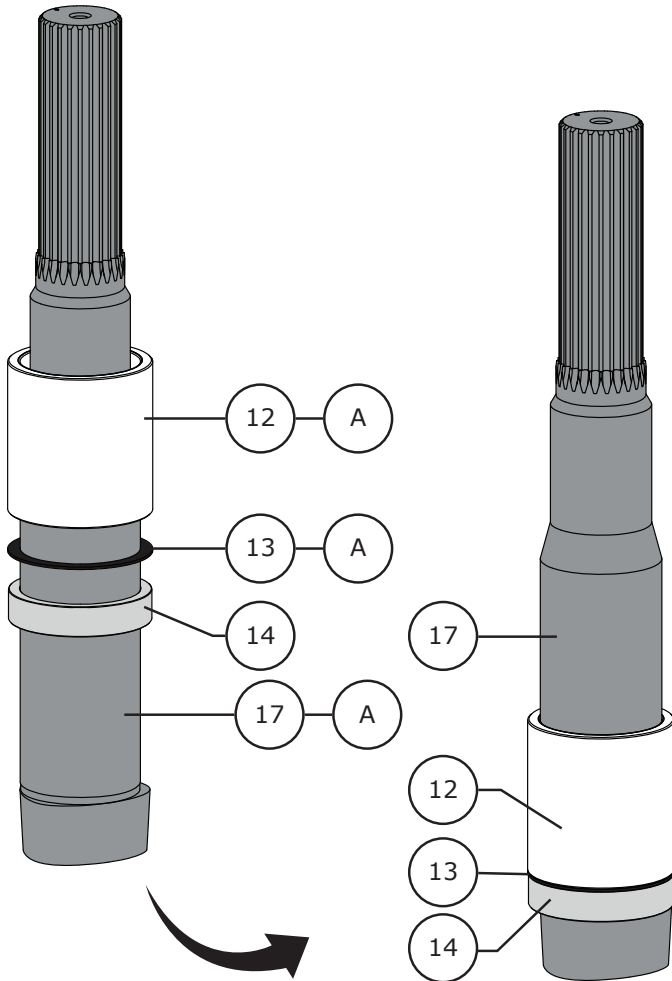

Figure 25 Inboard (Drive) Shaft Assembly
- 9** Insert the drive shaft assembly (Figure 25) into the valve and align the positioning marks of the drive shaft (Key 17) and polygon connection on the ball (Key 2). (Figure 28)